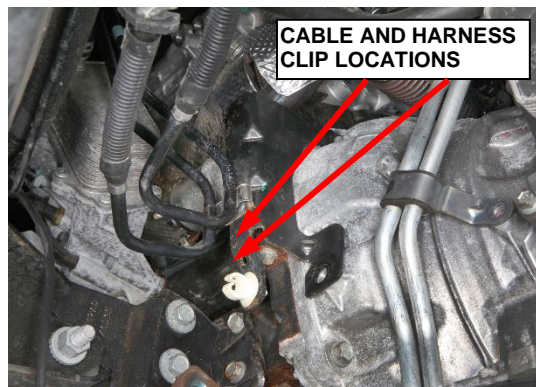

Figure 21 – Cable and Harness Clip Locations
41. Release the MRP cable and wiring harnesses from the upper bracket (Figure 21).